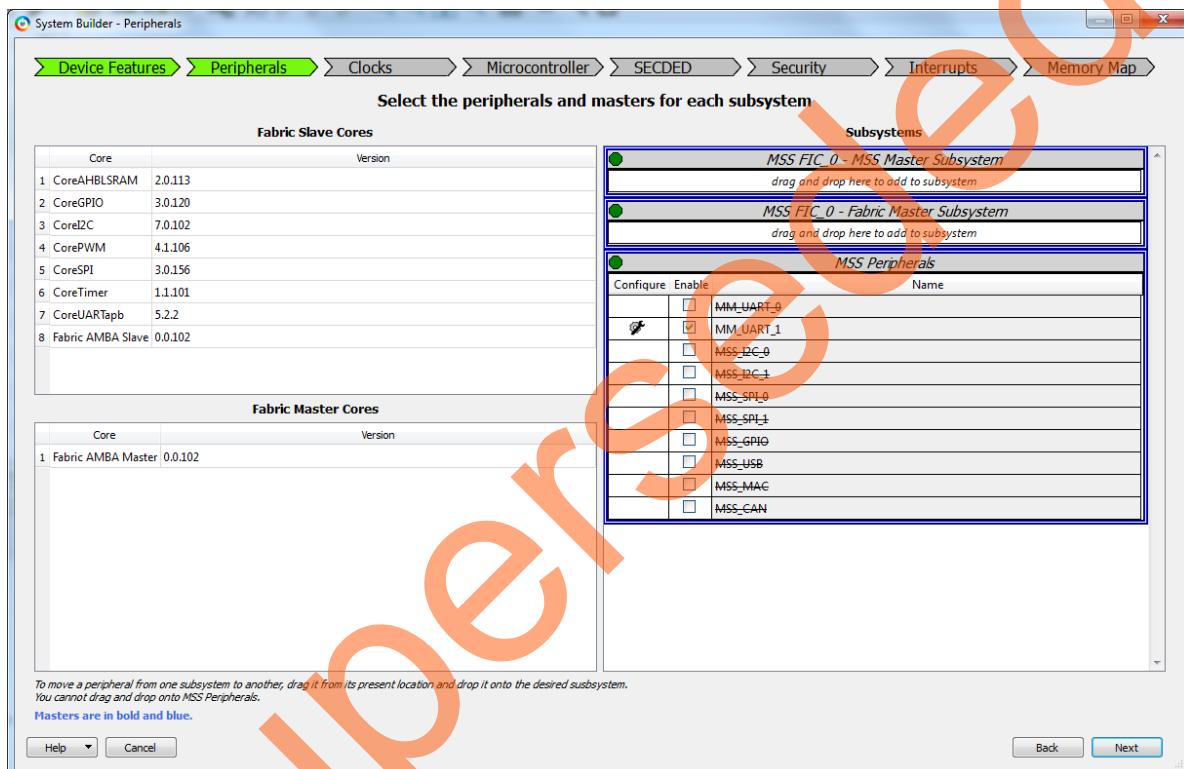

Figure 9 • System Builder - Peripherals Page
9. Click **Next**. This opens **System Builder - Peripherals** page as shown in Figure 9.
10. Disable the following peripherals on the **System Builder - Peripherals** page as shown in Figure 9: